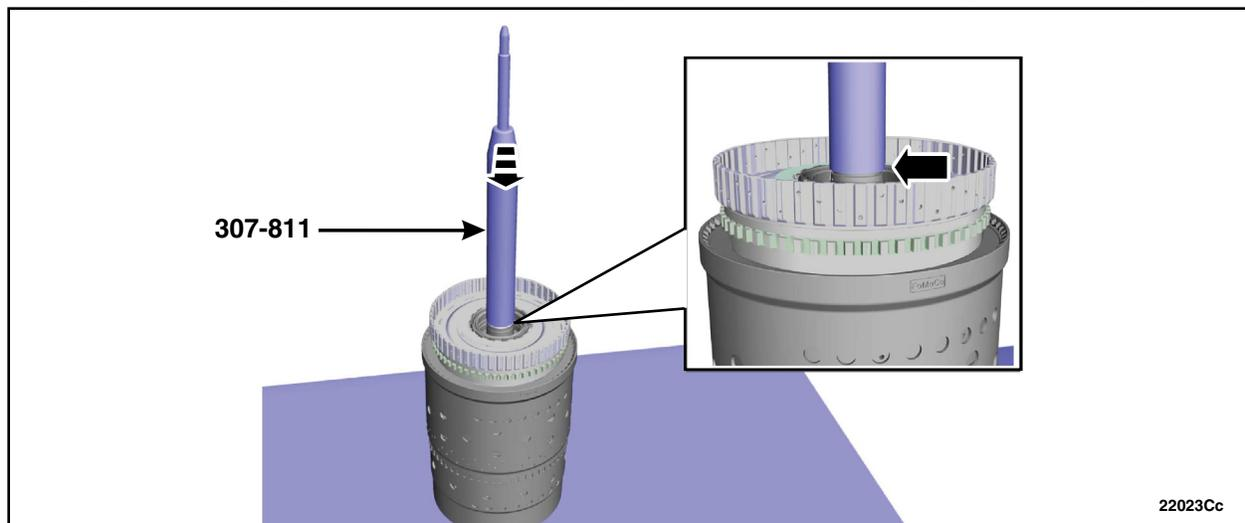

FIGURE 38
44. Install the Special Service Tool: 307-811 pusher & sizer, F2 Seal guide, and adjust the special tool to align the bottom edge of the tool with the top edge of the bottom Teflon® seal groove. See Figure 38.